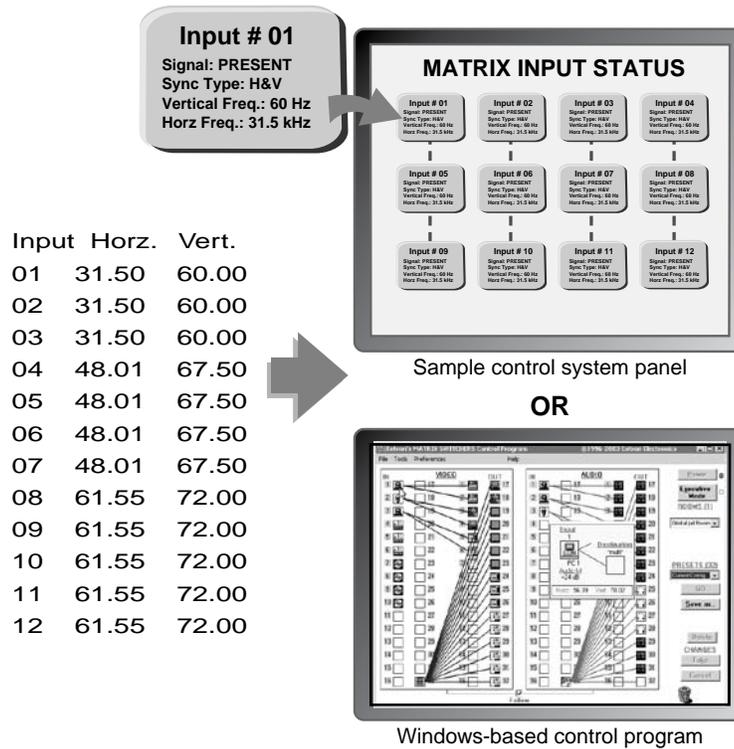

Figure 1-3 — DSVP data display
In critical environments or unmanned, remote locations, it may be vital to know that sources are active and switching. Extron’s DSVP confirms that input sources are active by scanning all sync inputs for active signals. DSVP provides instantaneous frequency feedback for composite sync or separate horizontal and vertical sync signals via the switcher’s serial ports or Ethernet port. The frequency information can be displayed on any control system or in a Windows®-based control program on a local-area network (LAN) or Internet (IP) connection (figure 1-3).